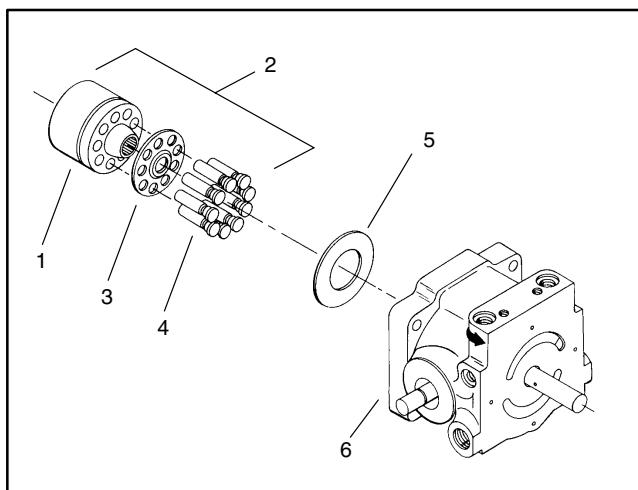

Figure 51
- 7. Lubricate thrust plate with clean hydraulic fluid. Make sure contact surface for the piston shoes is facing up (Fig. 51).
8. Lubricate cylinder block, spider, and piston assemblies with clean hydraulic oil. Insert piston assemblies through the spider and into the bores. Make sure spider and spider pivot contact surfaces align properly (Fig. 51).
9. Position variable housing in a horizontal position. Slide cylinder block assembly over the shaft engaging splines. Make sure pistons and thrust plate remain in place (Fig. 51).
10. Press needle bearing into the end cap. Bearing must protrude 3/32 to 1/8 inch (2.38 to 3.18mm) from face (Fig. 51).
11. Lubricate exposed face of the cylinder block with clean hydraulic fluid (Fig. 51).